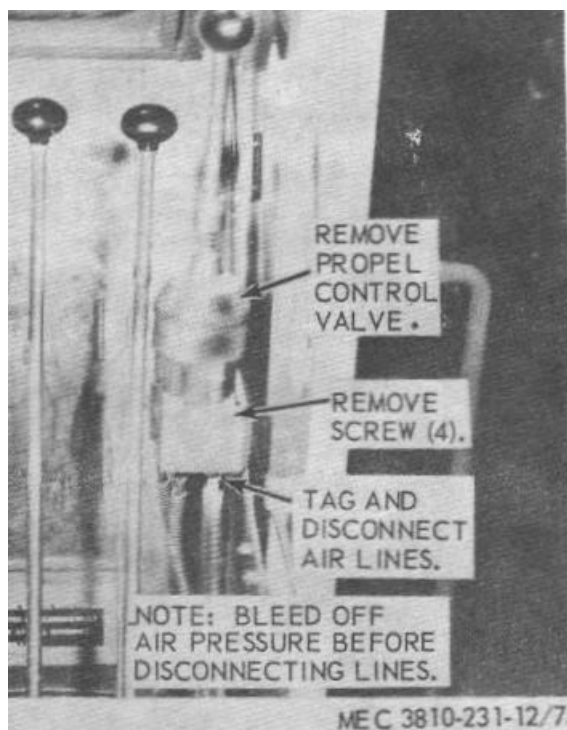

Figure 75. Propel control valve, removal and installation.
- a. *Removal.* Remove the propel control valve as instructed on figure 75.
- (1) Clean exterior with a cloth dampened with an approved cleaning solvent and dry thoroughly.
- (2) Inspect for cracks, breaks, and other damage. Replace a damaged or defective valve.
- c. *Installation.* Install the propel control valve as instructed on figure 75.